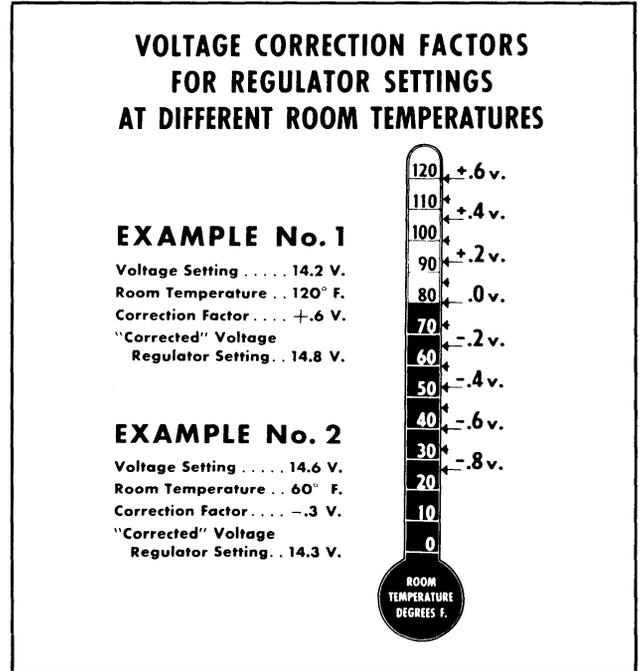

Fig. 13-9 Voltage Correction Factors
5. Adjust voltage setting to 14.5 if room temperature is 80 ; if not, refer to Fig. 13-9 and add or subtract the correction factor, then adjust the voltage setting accordingly.